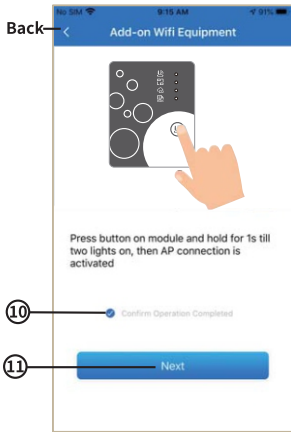
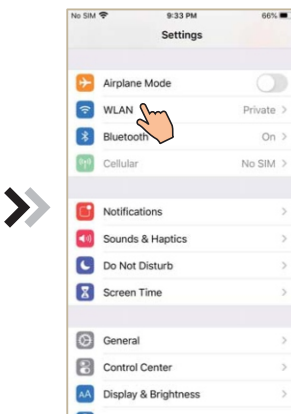
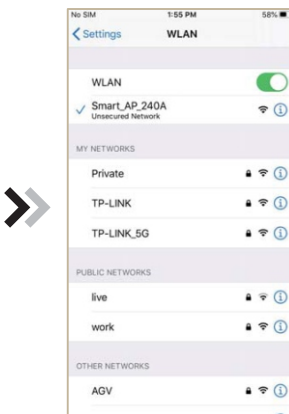

Fig.7 WiFi Module On interface
Fig.10 Setting interface
Fig.11 WiFi setting interface
1. Follow the instructions on the page (Fig.7), press button on module and hold for 1s till two lights on, then AP connection is activated, click (10) to confirm, click (11) to turn the page
2. Click (12) to enter the WiFi password for the current connection, click (13) to confirm
3. Jump to system settings, connect specified WiFi, click(14) to select the "Smart_AP_xxx", click (15) to popup window (Fig.10), follow the instruction and then jump to WiFi setting interface (Fig.11)